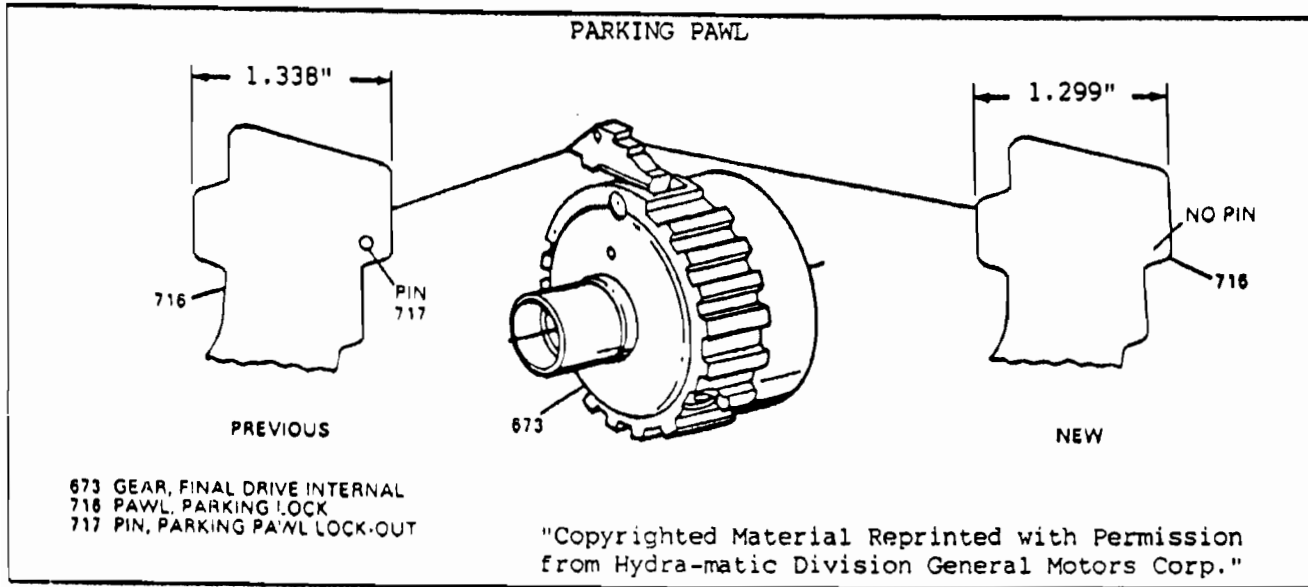

Figure 41
- (5) PARKING PAWL - The parking pawl lock-out pin has been eliminated, and the dimension (Width) of the parking pawl was reduced by .039" (See Figure 41).